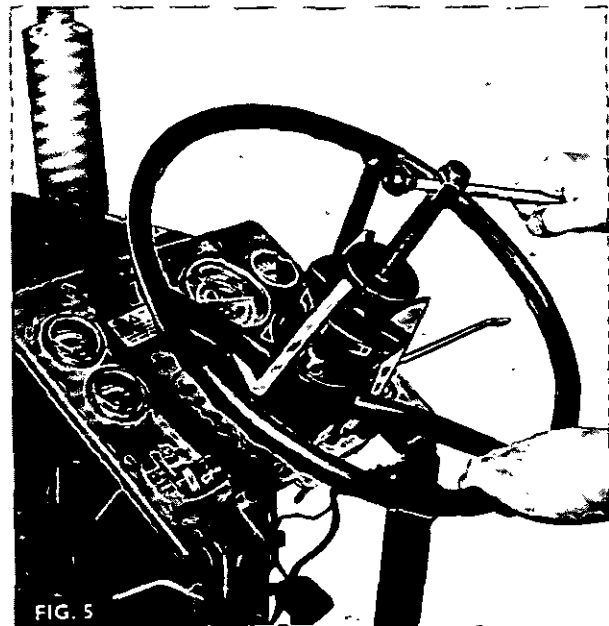

FIG. 5
20. Fig. 5. Pull off the steering wheel, using special tool MF 268, as shown.